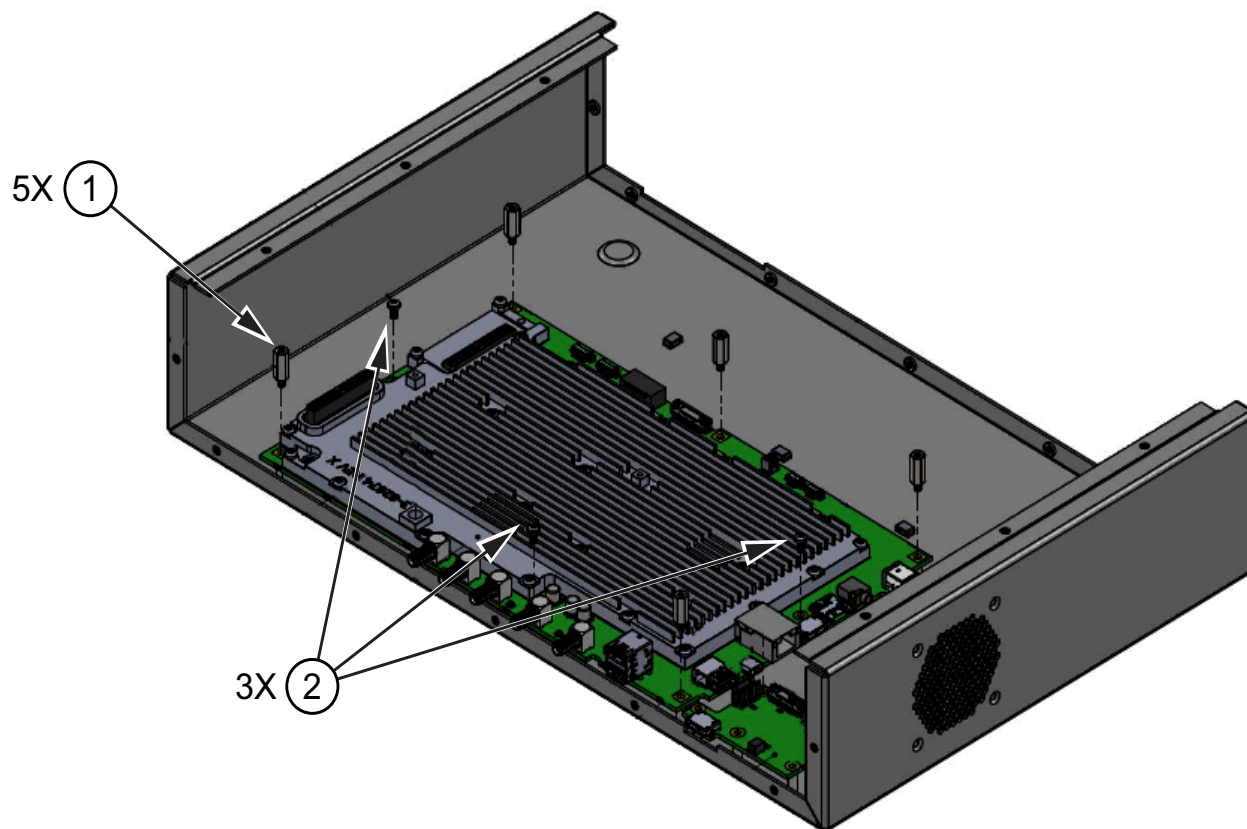

Figure 3-7. Main PCB Assembly Removal
2. Using a 5.5 mm nut driver, remove the five standoffs shown at location 1. See Figure 3-7.
3. Using a T10 Torx driver, remove the three screws shown at location 2. See Figure 3-7.
4. Lift the Main PCB assembly straight up out of the chassis. See Figure 3-7.